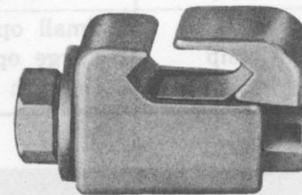

Fig. 46—AT-7796X Connector
**13.03** Bond the aluminum shield or armored wire of buried service wire to the ground terminal of the protector by means of the F-Connector. The aluminum shield or armor wire is bonded to the terminal housing by means of an AT-7796X connector (Fig. 46).